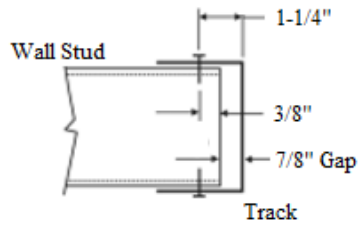

FIGURE 3 – STUD TO TRACK CONNECTION DETAIL
- 5.2 Cold-formed steel studs are attached to the deflection tracks with fasteners as described in Table 2 and Table 3. The installation of the screws shall be in compliance with ASTM C1007 with a minimum of three threads past the connection. Installation shall be as depicted in Figure 3, or as determined by the licensed design engineer of record.
3. Stud to track connection must be installed as depicted in Figure 3 with a maximum gap of 7/8" between the web of the deflection track and the end of the stud.